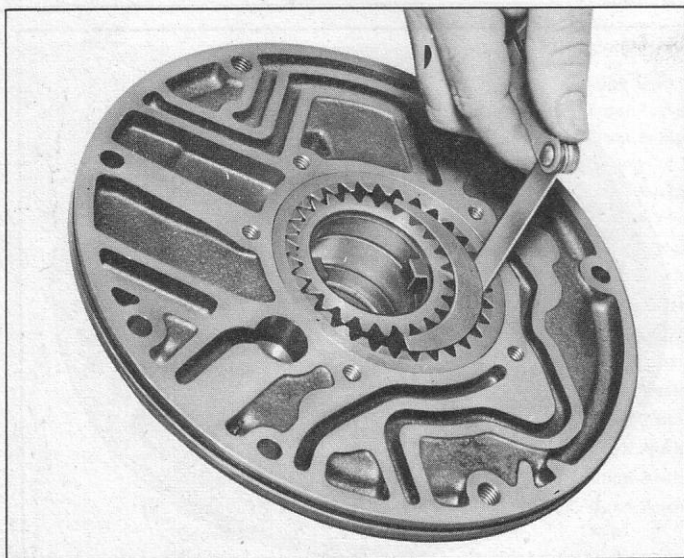

Fig. 25—Driven Gear to Crescent Clearance
- b. Clearance between I.D. of driven gear and crescent should be .003"-.009" (fig. 25).